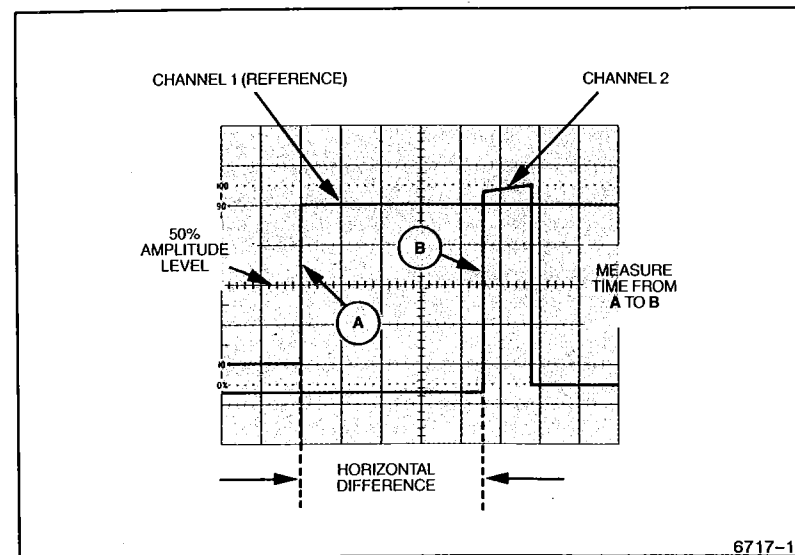

Figure 3-7. Time difference between pulses on time-related signals.
8. Set the SEC/DIV control to a sweep speed that provides three or more divisions of horizontal separation between measurement points on the two displays. Center each of the displays vertically (see Figure 3-7).
EXAMPLE. In Figure 3-7, the SEC/DIV control is set to $50 \mu\text{s}$ per division and HORIZONTAL MAG is set to X10. The horizontal difference between waveform measurement points is 4.5 divisions.